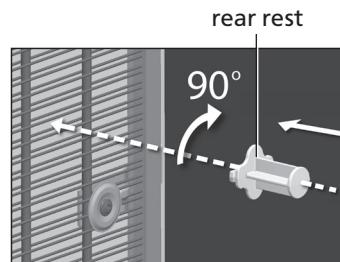

Figure 3
4.3 Install back blocks in accordance with figure 3: insert the rectangular end of the block between the bars of the condenser and turn the block through the angle of 90°.